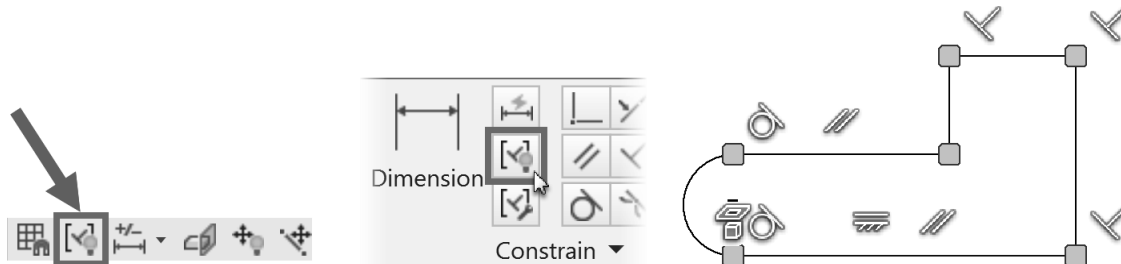

Figure 2.37
- Click the Show Constraints command from the Status Bar as shown in Figure 2.37 left or from the Constrain panel as shown in the middle image.